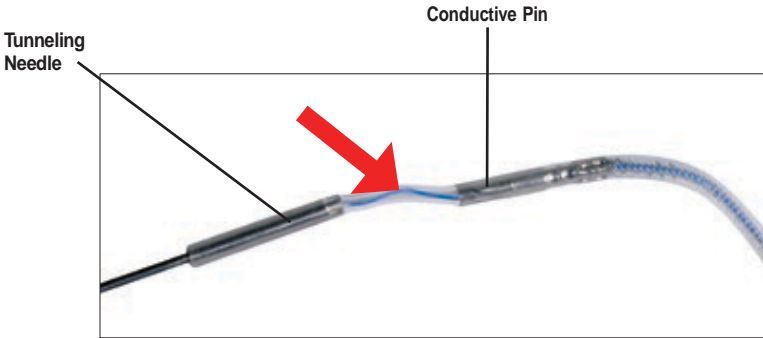

Figure 8 – TransLoc Proximal End with Tunneling Needle
- Excess electrode length may be looped in a figure 8 pattern around FrictionLoc hooks.